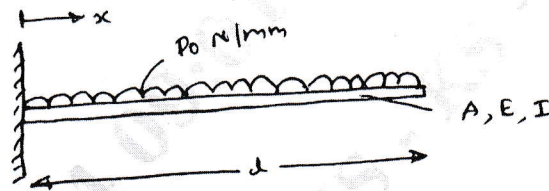

Fig Q2(c)
- c. Using Galeskin's method find the expression for displacement of cantilever beam as shown in Fig Q2(c)